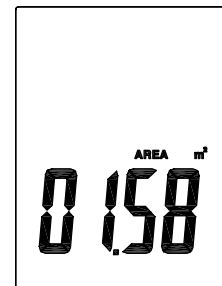

Fig. 3
2. Press **ENTER** button to bring up the area value screen (refer to Fig. 3).